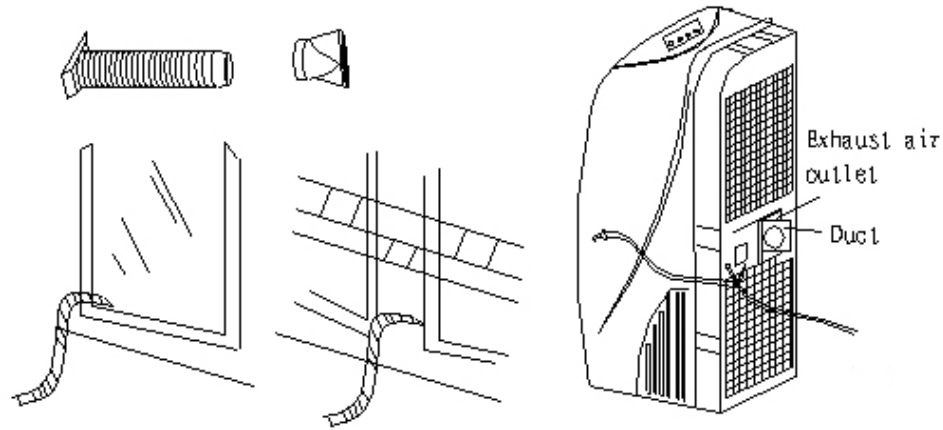

Fig.10
1. Attach one end of the duct to the exhaust air outlet of the mobile air conditioner, first fit the left side of the duct on the exhaust air panel, then the right side duct. Push it downwards, be sure to fix thoroughly.(See the fig.10)